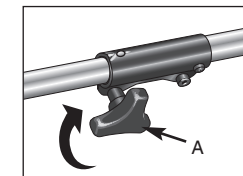

Fig. 3C
3. Turn the knob (A) clockwise to tighten. (Fig. 3C)